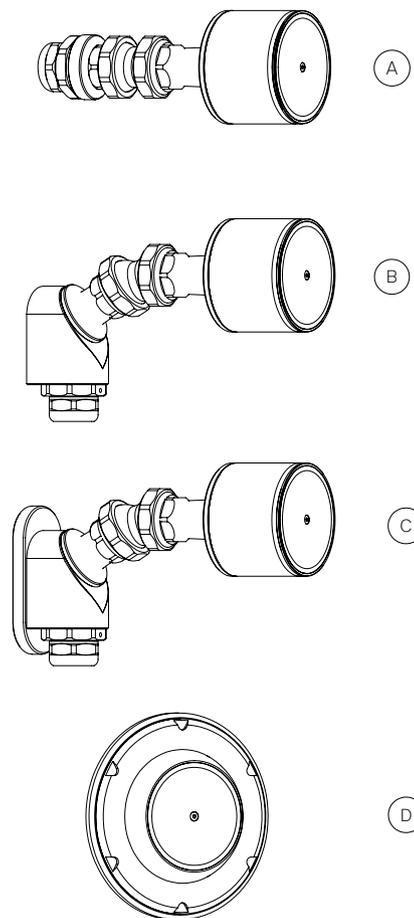

Figure 6
- The flex arm mount (trough-wall mounting) (Fig. 6-A) is ideal for installation in a sheet metal wall with a direct supply line feed-through.
- The flex arm mount (pre-wall mounting) (Fig. 6-B) can be flexibly mounted on sheet metal walls or in solid materials, even in places where a direct cable feed through the housing wall is not possible.
- The flex arm mount (magnetic mounting) (Fig. 6-C) is ideal for simple and quick mounting without modification to the machine tool, in particular for tests or selecting a suitable installation location. For permanent installation, fixed mounting is recommended. To do this, remove the magnetic shoe; the holder
- The ball head mount (Fig. 6-D, shown without tool and without counter holder) is designed for installation in a sheet metal wall. Thanks to